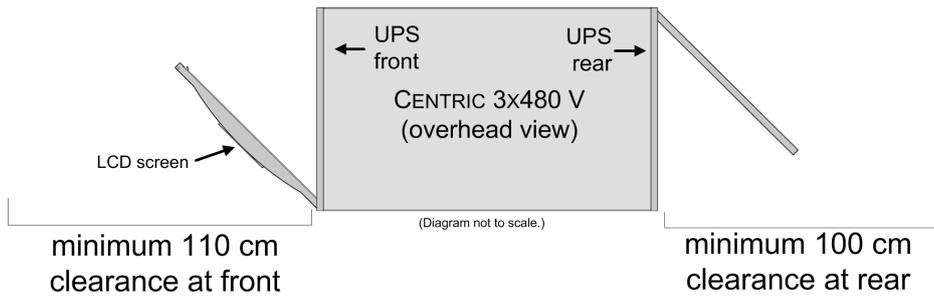

Figure 8: Recommended clearances around the Centric UPS
5. Ensure that there are adequate clearances to allow comfortable access to battery cabinets and electrical boards. Recommended minimum clearances around the **Centric** are provided in Table 3 and Figure 8.